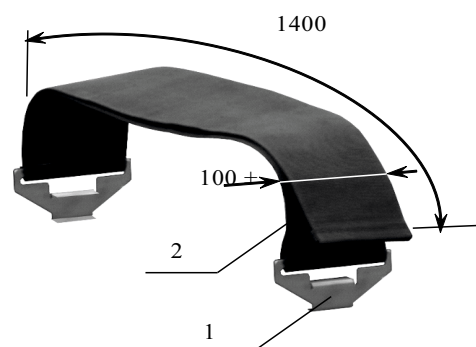

Figure 4. Patient restraint strap.
4. **Patient restraint strap** (waist strap) (Figure 4). Soft synthetic strap 100 mm wide with fixing hooks, adjustable in length.